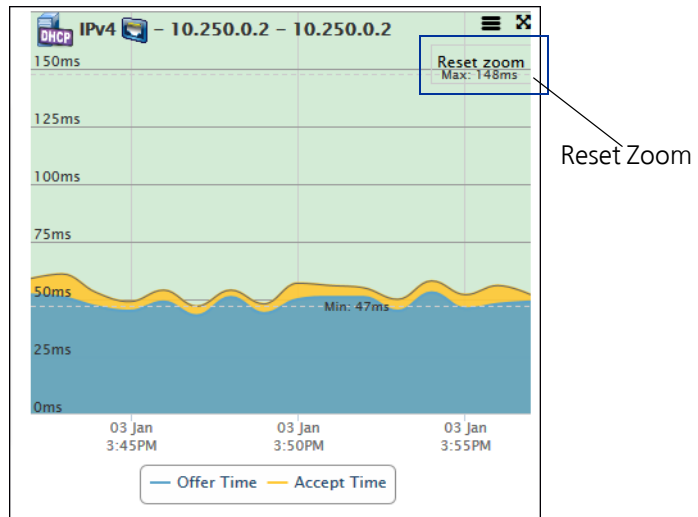

Figure 85. Reset Spot Zoom in a Chart on OneTouchAT.com
- 2 Click **Reset Zoom**, located on the chart, see Figure 85.